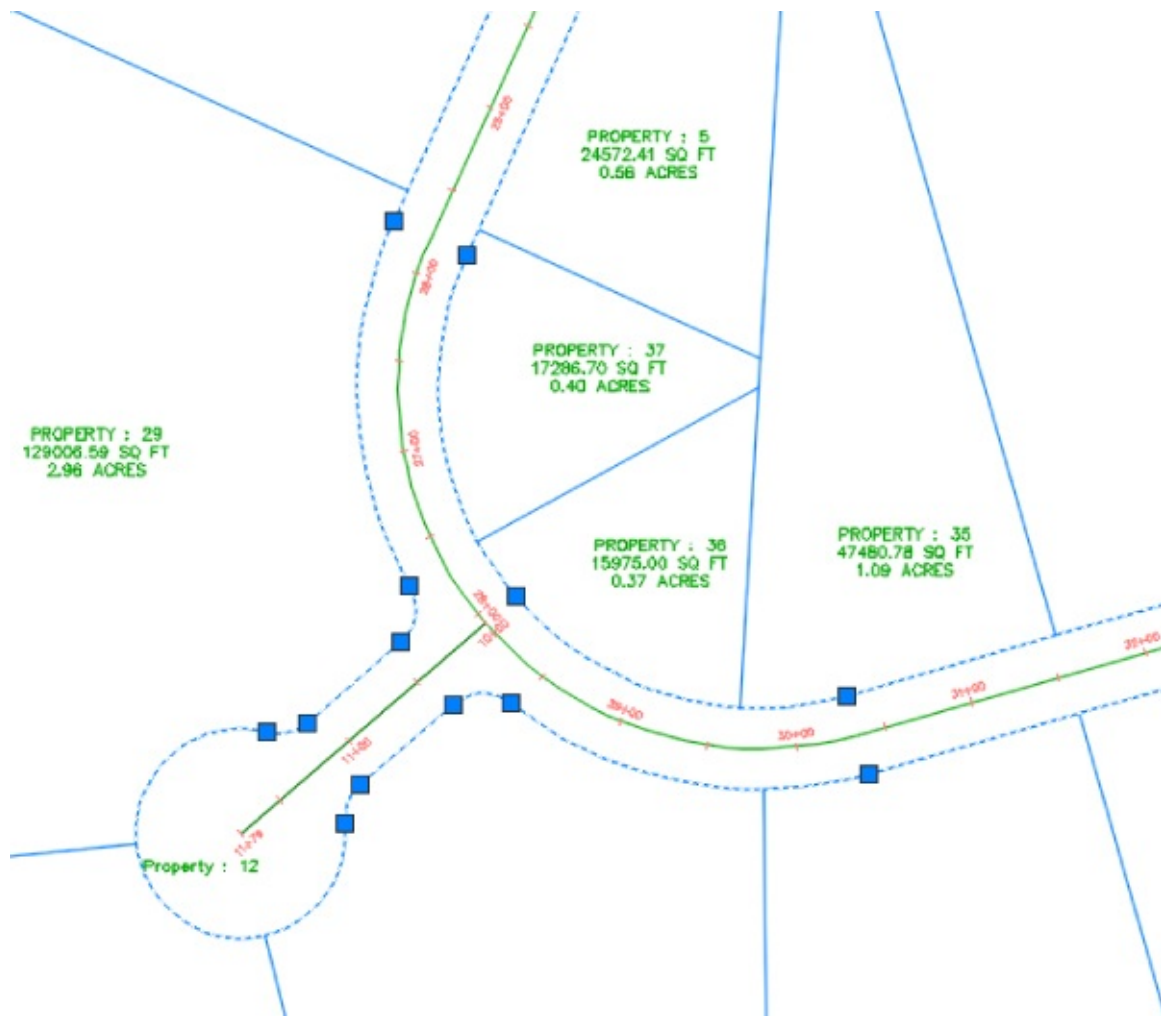

Figure 5.52 Natural vertices on a parcel segment
Parcel segments should have natural vertices only where necessary and split-created vertices at all other intersections. A natural vertex, or point of intersection (PI), can be identified by picking a line, polyline, or parcel segment and noting the location of the grips (see Figure 5.52).